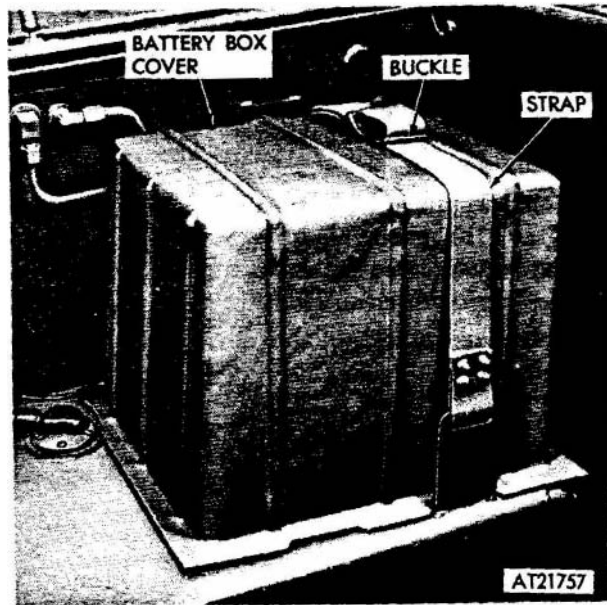
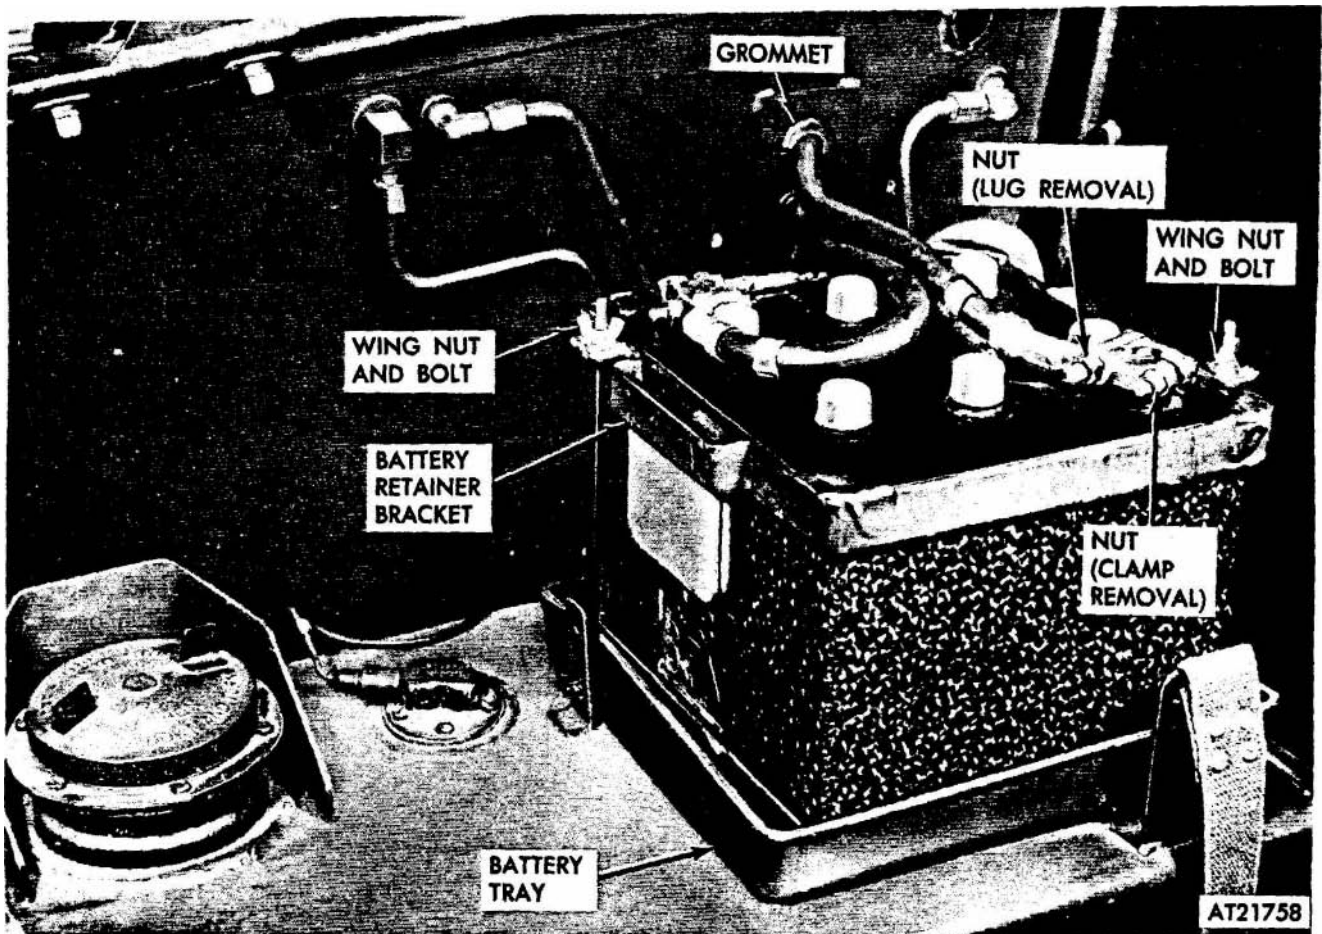

Figure 2-105. Battery box cover.
Figure 2-106. Battery, removal and installation.
(1) Remove battery box cover by disconnecting strap, and lifting box cover up and away from battery (fig 2-105).
(2) Disconnect battery ground cable by
loosening nut on battery clamp. Disconnect positive cable in the same manner (fig 2-106).
(2) Pull cables through tractor wall, and insert grommets in wall (fig 2-106).
(3) Attach terminal clamps to cable lugs with bolts and nuts. Tighten nuts.
(4) Position battery in battery tray.
(5) Position battery retainer bracket over battery and secure by tightening two wing nuts. Ensure that bottom of bolts are engaged in holes.
(6) Connect battery ground cables to terminal posts and secure by tightening nuts on terminal clamps. Repeat procedure for positive cables.
(7) Place battery box cover over battery ensuring that slot in cover fits over cables. Secure with strap and buckle (fig 2-105).
(8) Close and secure engine cover (refer to TM 9-2320-242-10).